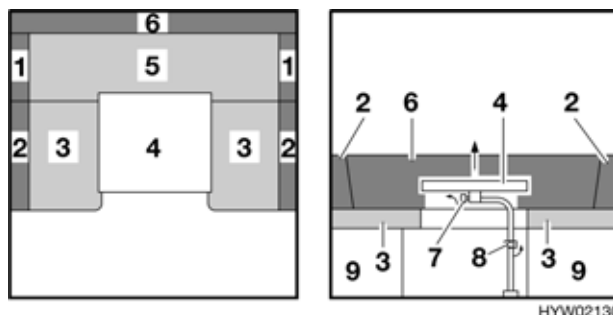

Fig. 85 Prior to conversion
- Loosen the fixing screw (Fig. 85,7) at the bottom of the table and lift the table-top (Fig. 85,4).
- Loosen the fixing screw (Fig. 85,8) for the table leg, pull the table leg upwards and out of the holding device.